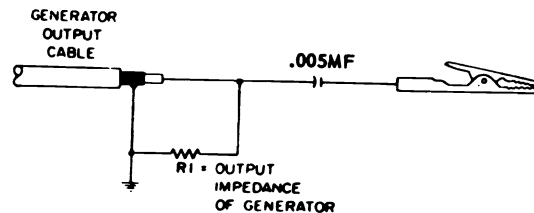

Figure 3. - Generator Cable Termination
Generators - Except where otherwise noted, all signal generating equipment should be terminated as shown in Figure 3. Connect the signal cable ground near the ground of the stage where the signal is injected. Adjust the CW generator output so that: (1) When the VTVM is being used its reading remains near the -1 volt point. (2) When the oscilloscope is being used the marker frequencies do not distort the response curve.